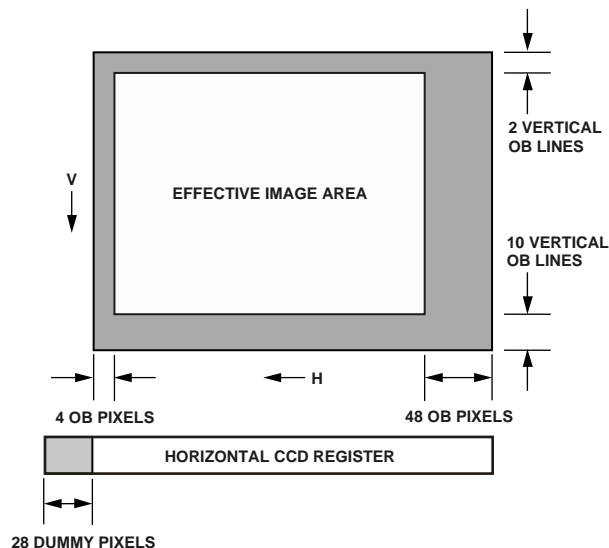

Figure 28. Example CCD Configuration
Figure 28 shows an example CCD layout. The horizontal register contains 28 dummy pixels, which will occur on each line clocked from the CCD. In the vertical direction, there are 10 optical black (OB) lines at the front of the readout and 2 at the back of the readout. The horizontal direction has 4 OB pixels in the front and 48 in the back.